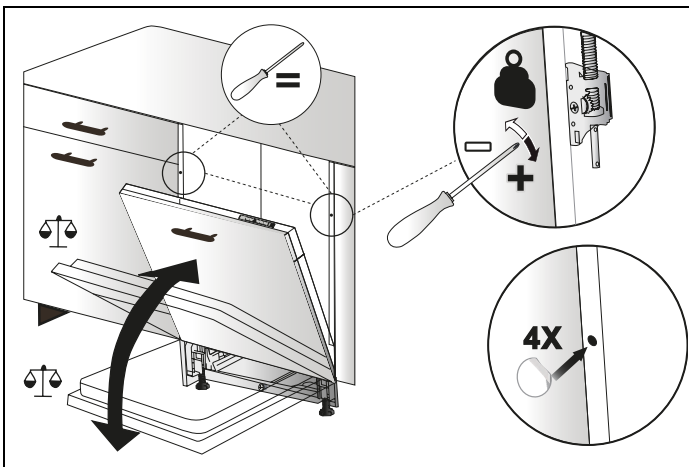

Fig. 29
9) According to the weight of the assembled wooden door, the balancing must be provided by the mechanism shown in Fig. 29 .